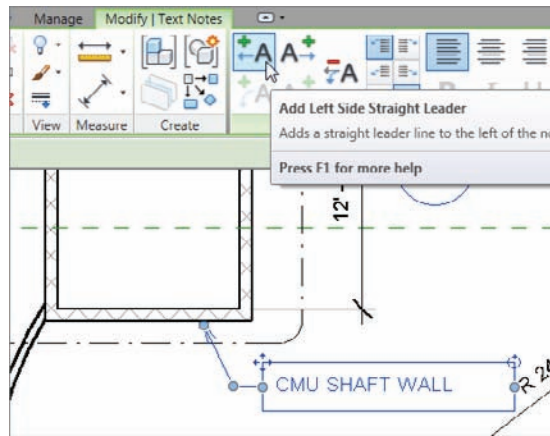

FIGURE 5.50 Adding and stretching a leader
13. Click the Add Left Side Straight Leader button, as shown in Figure 5.50. This option adds a leader to the left end of the text.
14. By clicking the grips and moving the text around, configure the text and the leader to resemble Figure 5.50.